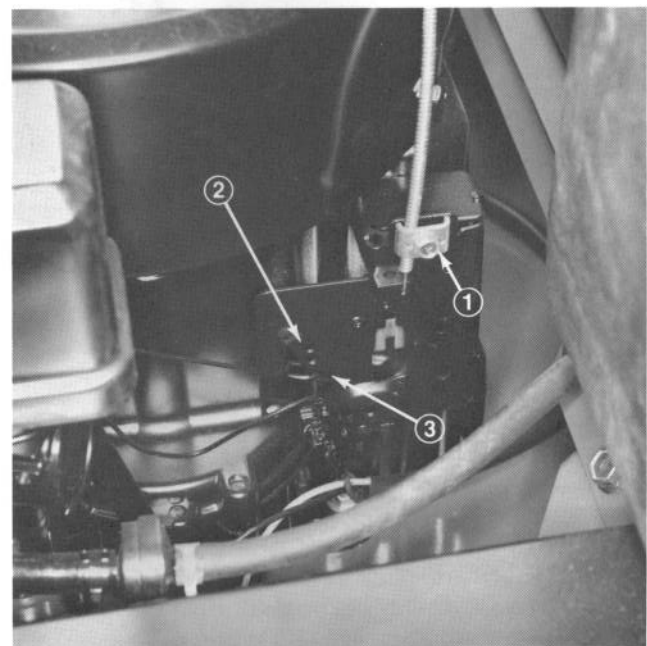

Figure 22
2. Loosen the throttle cable clamp screw (Fig. 22) and move the control cable casing and wire until the throttle lever touches link.